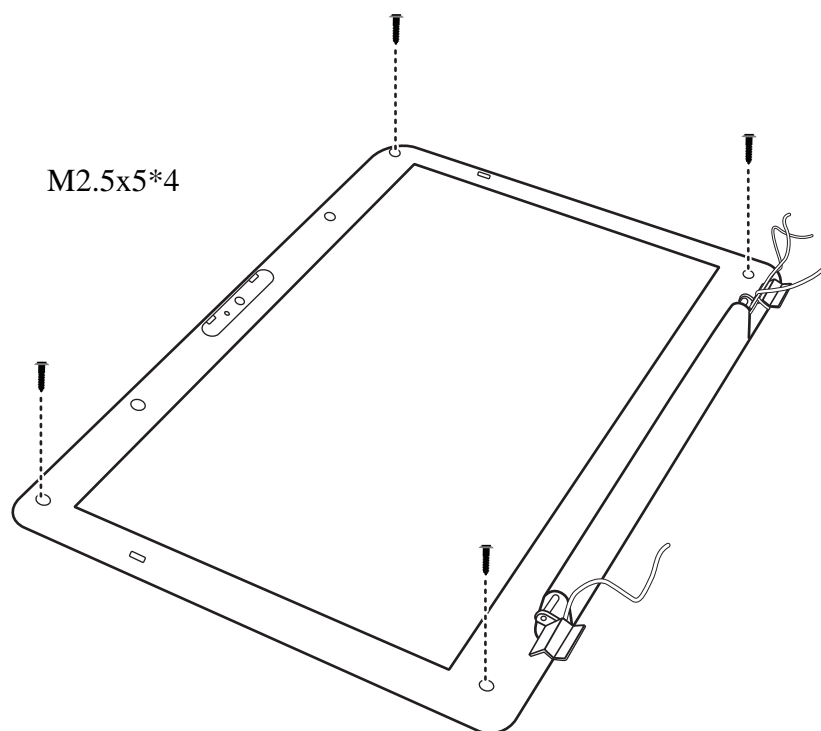

Figure 4.31 Removing the LCD Bezel Assembly
1. Remove four M2.5x5 screws as shown in Figure 4.31.